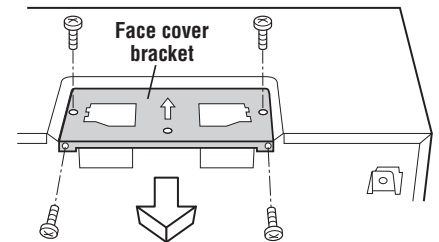

Figure 8
1. Remove and save the 4 screws from Fan Cover Bracket. Remove Fan Cover Bracket by sliding it in the opposite direction of the arrow on the Fan Cover Bracket, as shown in Figure 8.